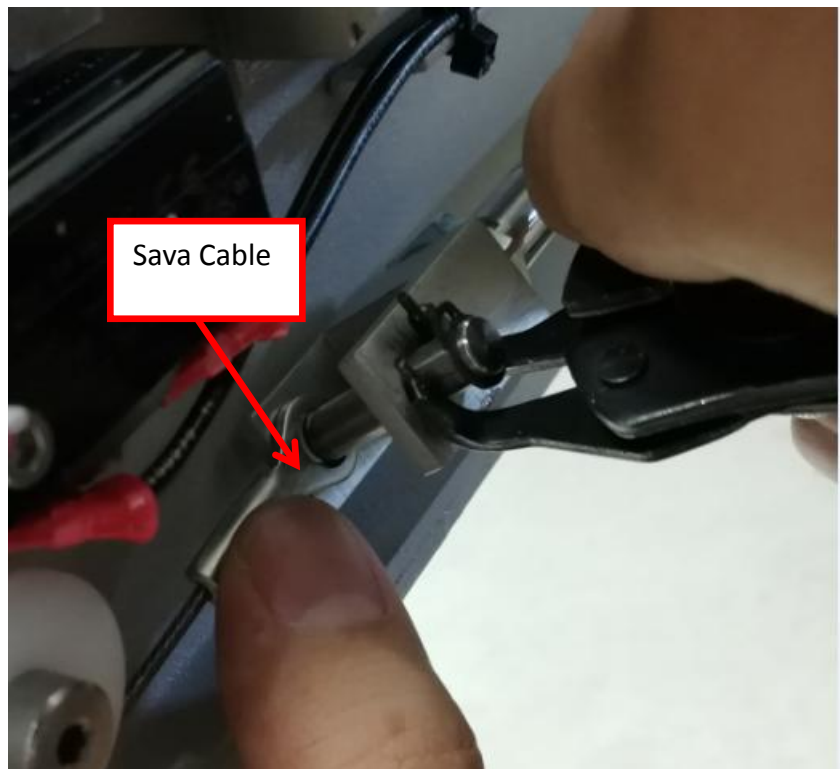

Figure 8
12. Gently remove Sava cable from dowel pin as Figure 8